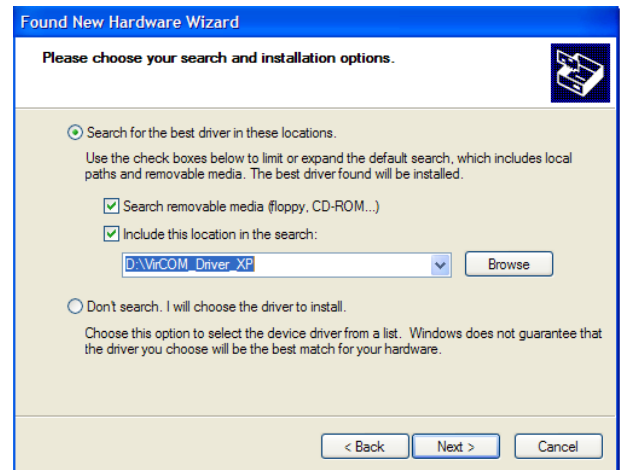

Figure 4. Search for Driver Window
The window shown in Figure 4 appears.
The following window opens (see Figure 4).
4. Select **Search removable media (floppy, CD-ROM)** and **Include this location in the search** (see Figure 4). Use the **Browse** button to locate the **Windows XP and VISTA** or **Windows 7 (64 bit)** folder in the VirCOM_Driver_XP folder downloaded from the ADE7953 evaluation board Web page.